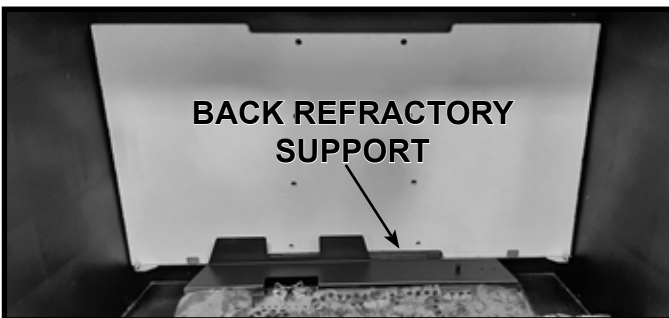

Figure 5 Back Insulation Board Installed
6. Install back insulation board by positioning it at the rear of the firebox and behind the refractory support tabs as shown in Figure 5.